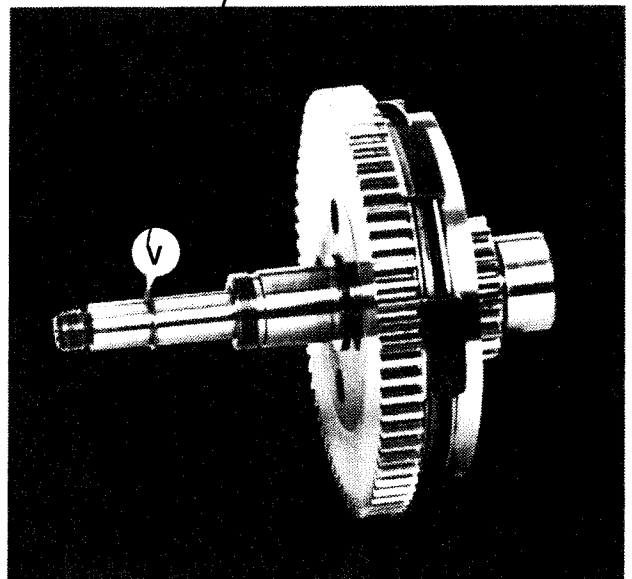

Figure 1.9 - Carriage Clutch
- a) Remove snap ring "V", Figure 1.9 .